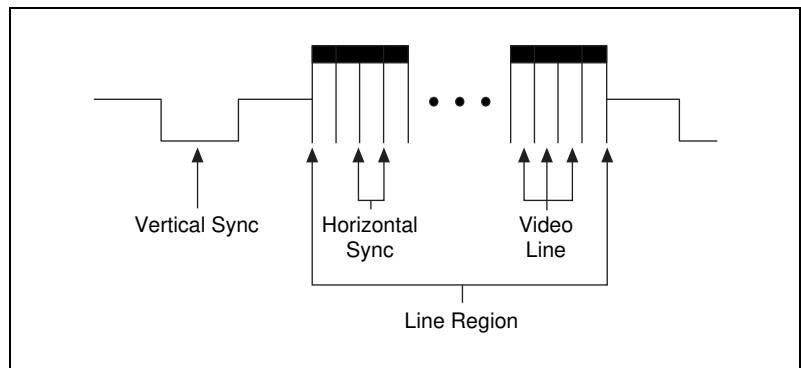

Figure 3-3. Video Field
- **Field**—For an interlaced video signal, a field is half the number of horizontal lines needed to represent a frame, as shown in Figure 3-3. The first field of a frame contains all the odd-numbered lines. The second field contains all of the even-numbered lines.